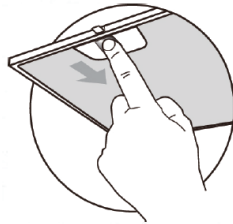

Fig.1
- 1.Remove the metal filters as shown in Fig. 1.